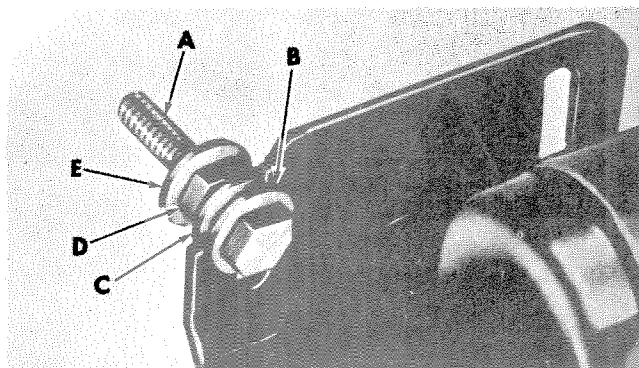

FIGURE 2
1. Install four motor mounting bolts (A, Fig. 2) with washers (B) on motor and lock them in place with washers (C) and hex jam nuts (D).
4. Install a washer (E, Fig. 2) on each motor mounting bolt (A).